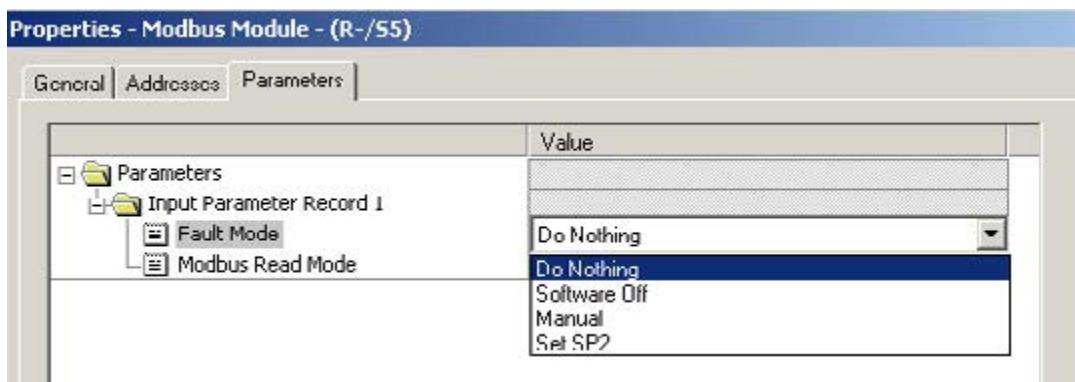

Figure 16
- Fault Mode (Fig.16) : if Profinet communication fails, you may set the modules as follows